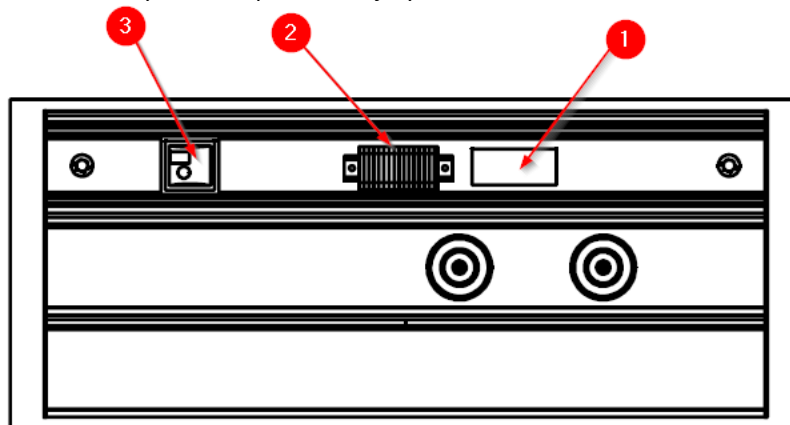

Fig.8 Detail of electrical connection points on AURA
The electrical, voice and data circuits enter the equipment through a window (1), the dimensions and location of which are detailed in the installation plan of the equipment. The electrical circuits terminate in a common terminal block (2), except for voice and data, whose connection is direct to the corresponding mechanism (3). (See Fig.8).